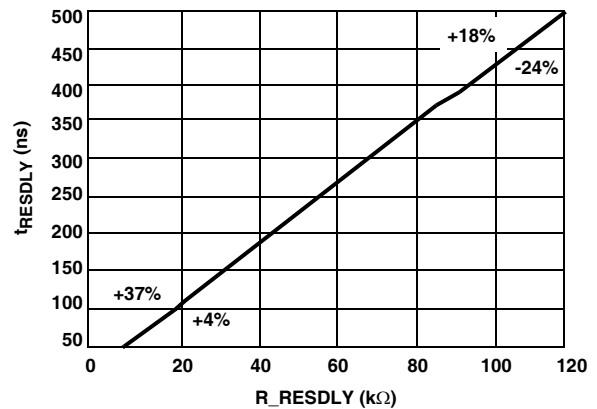

FIGURE 7. R_RESDLY vs RESDLY
- Figure 7 illustrates the relationship of the value of the resistor (R_RESDLY) and the resonant delay (t_RESDLY). The percentages in the figure are the tolerances at the two end points of the curve.